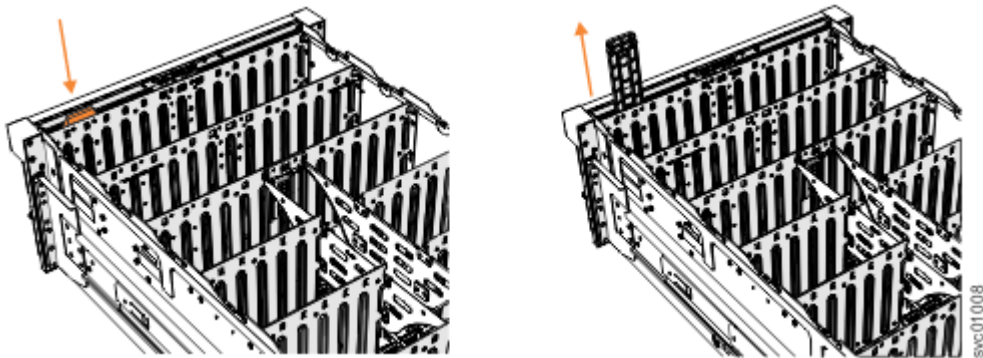

Figure 171. Removing the display panel assembly
3. Press the release tab at the top of the display panel assembly, as shown in Figure 171 on page 202.